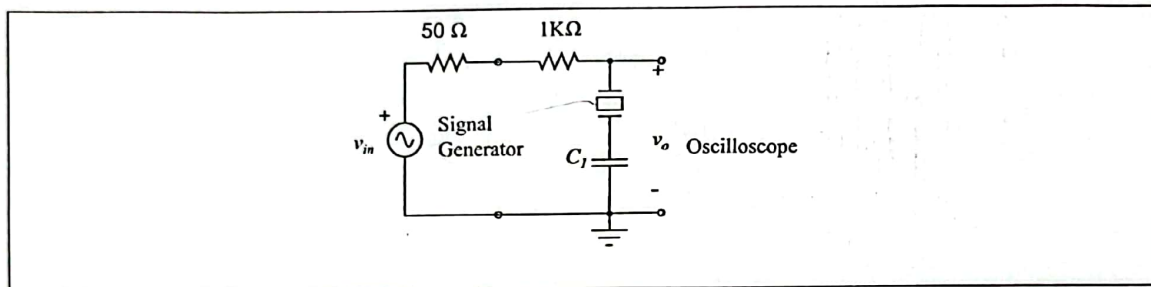

Figure 3: Quartz crystal measurement setup with a series capacitor.
3. Solder a $C_1 = 5.6$ pF capacitor in series with the crystal as shown in Fig. 3. Determine the resonance frequency, f_{s1} , of the new circuit within 10 Hz. Find the difference, δf , between the resonance frequencies with and without 5.6 pF capacitor in series. Note that the minimum voltage observed in this measurement is higher than that in the measurement without the capacitor, since the capacitor, C_1 , also has a finite series resistance of its own.